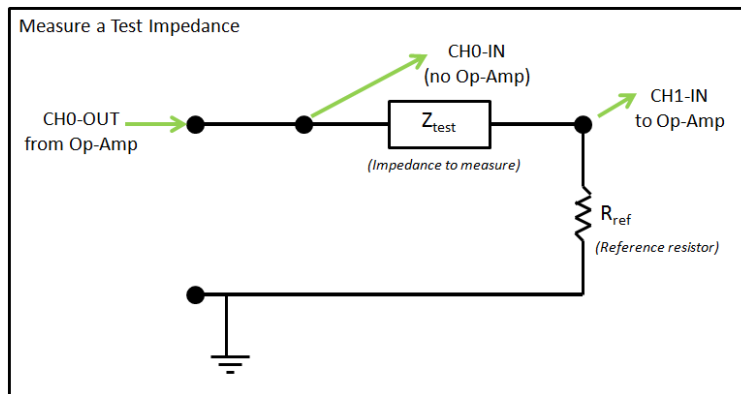

Figure 5: Circuit to measure a test impedance. The reference resistor R_{ref} should have an impedance magnitude similar to the test impedance.
2. Impedance-measurement circuit: Build the circuit shown in Figure 5, connecting to the op-amps and the MU box as shown in the diagram. To measure an impedance (V/I) we need to know the current, but the MU box measures voltages. Using a voltage divider with a reference resistor R_{ref} , you can calculate the current, and thus measure an unknown impedance Z_{test} .
- (a) Place a “test resistor” (of known impedance) in series with the reference resistor R_{ref} . Your test resistor should occupy the place of Z_{test} in Figure 5.
- (c) Use two inputs (into the MU-box), taken across the ‘test resistor’ terminals. CH0-IN should be connected to the “high” side of the speaker, and CH1-IN connected at the place where the speaker and reference resistor are joined, as described in Fig. 5.
NOTE: Every time you set up your lab circuit for the day, we suggest that you do a quick test with a resistor, as in Lab 1 (Fig. 5) to make sure everything is running properly!!!
- If you wish to measure a **current**, you will need a reference resistor of some sort (i.e. by measuring the voltage across a known resistor, you can calculate the current). This can be like your circuit in Fig. 5, or you can measure the voltage across a known resistor inside the 2-port you are trying to characterize
In this lab you will measure the electrical input impedance Eq. 1, where V is the voltage across the speaker and I is the current through it. The loudspeaker will be in **series** like your resistor from Lab 1, so you should connect the loudspeaker according to Figure 5. The loudspeaker has two terminals; when you swap the two terminals, the polarity of the acoustic signal will change. Note the red dot next to one of the terminals. Take this as the “positive” terminal. So for some later experiments, this could make a difference in your results, but not for Lab 3. Note that these terminals represent *one* side of a two-port network - in the case of the loudspeaker, the other side of the network is the acoustical signal (pressure and volume velocity) at the loudspeaker cone.